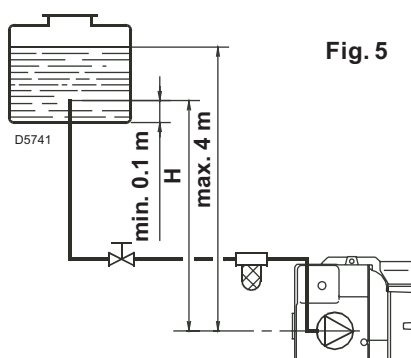
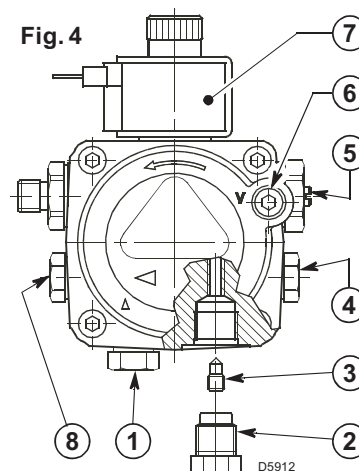

Fig. 5
Fig. 4
In order to obtain two pipe working it is necessary to unscrew the return plug (2), screw in the by-pass screw (3) and then screw in return oil line (2). (See fig. 4).
On the system in fig. 5 it is sufficient to loosen the suction gauge connection (6, fig. 4) and wait until oil flows out.